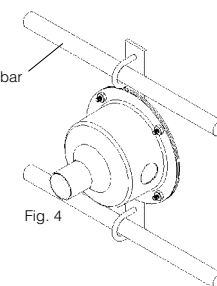

Fig. 4
- Attach the assembly to structural rebar in such a way as to pull the assembly against the back of the concrete forms to help hold it in place while the concrete is being poured, as shown in Fig.4.